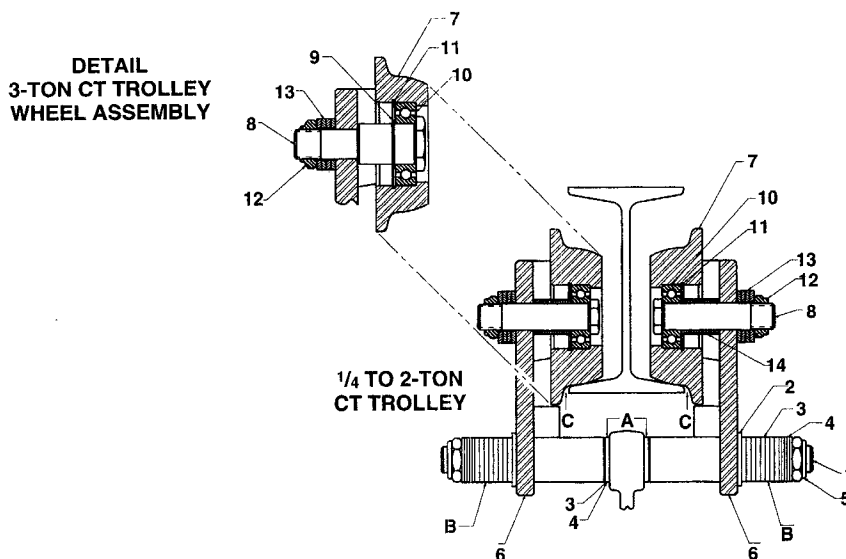

FIGURE 2-1. COFFING CT TROLLEY
- c. See Figure 2-1 for instructions on adjusting lug-mounted plain trolleys.
- a. **I-Beam Adjustment.** Adjustment for I-beam sizes and tolerances is accomplished by locating the spacer washers as shown in Figure 2-1. Normal placement of washers is given in Table 2-2. Refer to Table 2-1 for identification of part names and numbers.